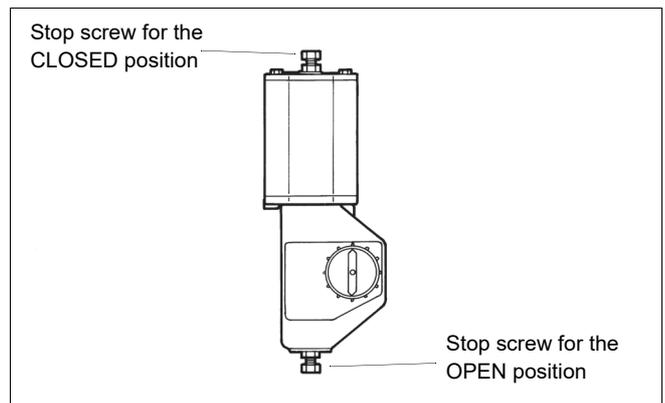

Fig. 38 Open and closed positions of a B1 actuator
- Drive the actuator piston to the extreme outward position and turn the valve into the closed position, see Fig. 38.
- Adjust the segment open and closed positions (limits to piston movement) by means of the actuator stop screws, see Fig. 38. The correct opening angle is 90°, for the R2\_S valve 70°. The accurate position can be seen in the flow port. Check that the yellow arrow indicates the position of the segment. **Keep your fingers out of the flow port!**